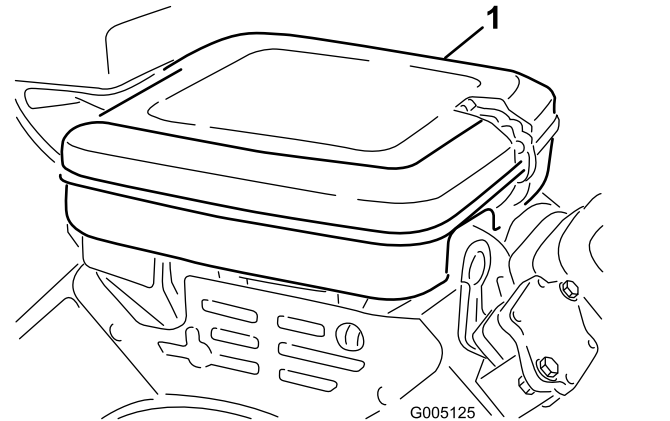

Figure 30
1. Clean the air-cleaner cover (Figure 30).